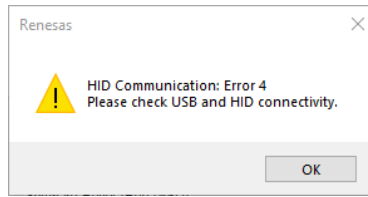

Figure 35. HID Communication Error Example
- The GUI can report various HID USB communication errors using a message box (see Figure 35). The message box reports an error code number. Check all physical connections, restart the IC, and exit/reopen the GUI.